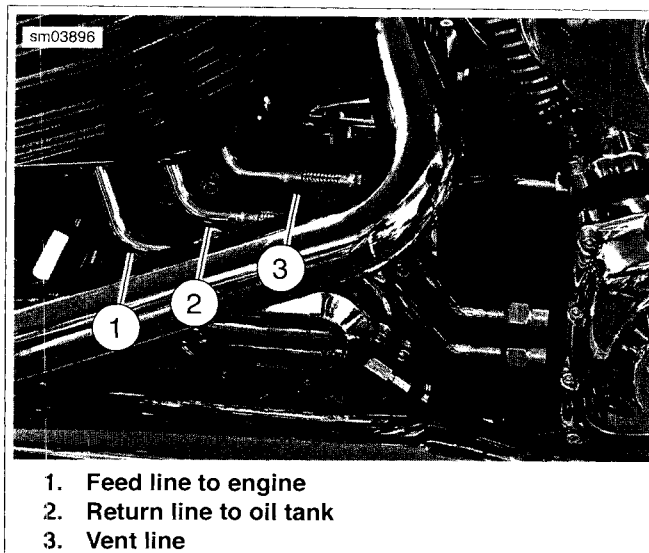

Figure 3-181. Oil Line Fittings/Retainers: FXCWC
- See Figure 3-181. Small retainers connect the vent line (3) to the oil tank and to the engine.
- Large retainers connect the feed line to engine (1) and return line to oil tank (2) to the oil tank and to the engine.